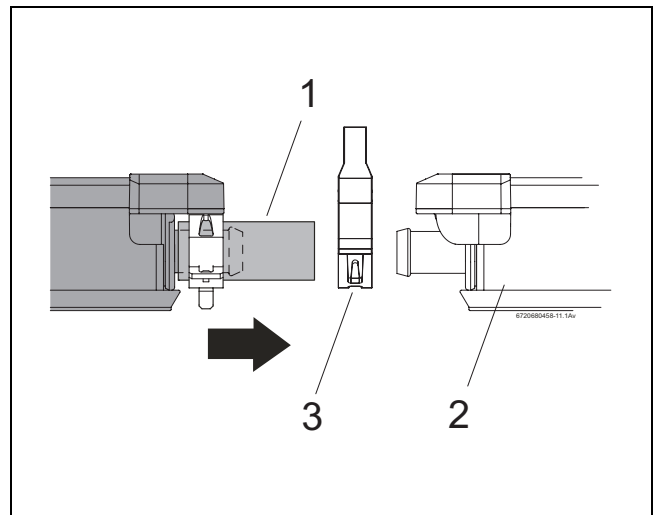

Fig. 41 Pushing the second collector towards the first
- ▶ Place the second collector with the pre-assembled solar hoses (Fig. 41, [1]) on the profile rails and let it slide into the anti-slip brackets.
- ▶ Push the second hose clip (Fig. 41, [3]) over the solar hose.
- ▶ Push the second collector up against the first collector (Fig. 41, [2]) in such a way that the pre-assembled solar hoses are pushed onto the left hand connections of the first collector.